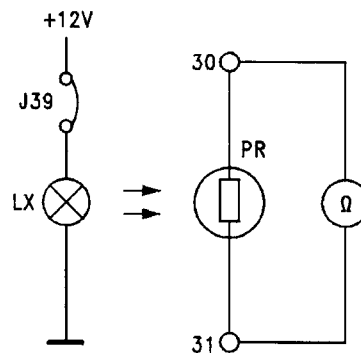

fig. B15.4
- Connect jumper J39, and connect the ohmmeter between points 30 and 31 to produce the circuit of figure B15.4.